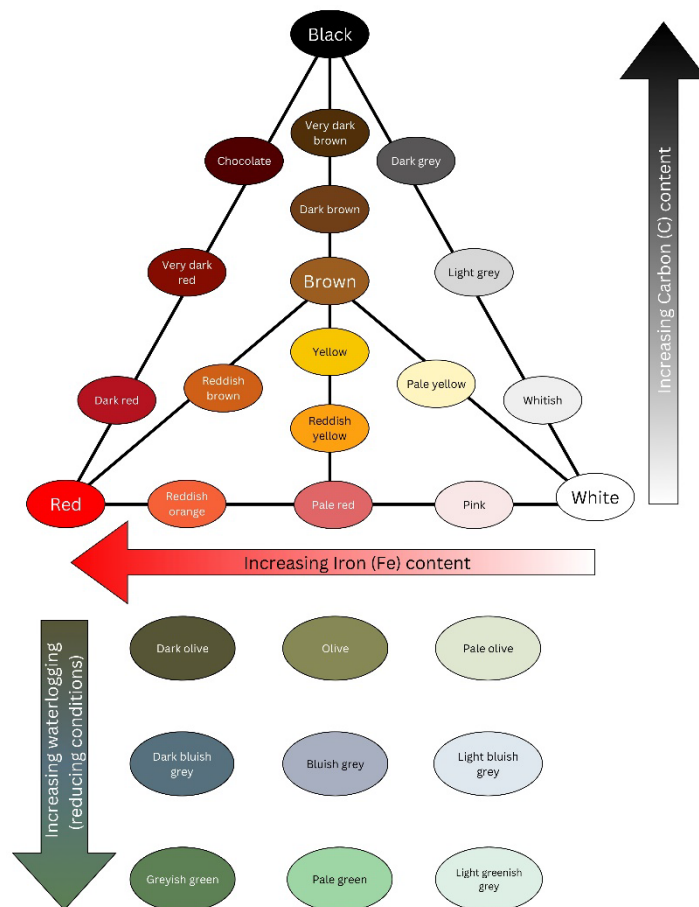

Figure 5 Relationship between soil colour and influencing factors/conditions. Source: Adapted from Better Soils, Agricultural Bureau of South Australia
1. Assess a range of soil samples (or images) to determine the soil colour using the Munsell soil colour chart. If you do not have access to a Munsell chart, use Figure 5.